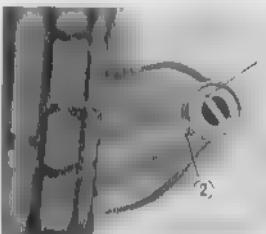

Fig. 4-65 Removing diffuser pipe
3. The diffuser pipe can be removed by unscrewing the 6×8 hex bolt however the diffuser pipe is not removable on the JSA export models (Fig. 4-65)